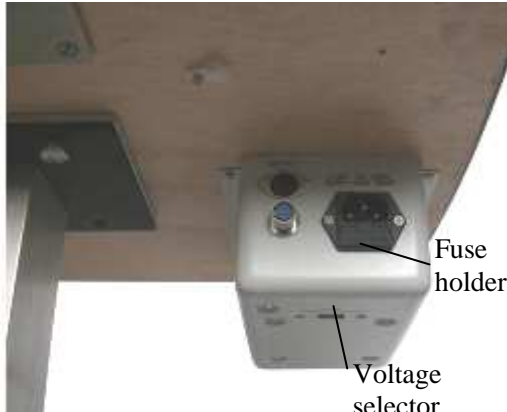

Fig.3
✧ Check the setting on the voltage selector located on the bottom of the power box (Fig.3). If it doesn't match with the input voltage, slide it to the proper position with watch screw driver (P).